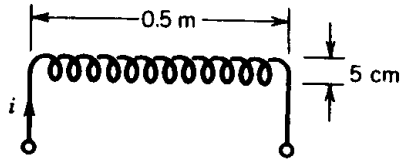

FIGURE P1.1
- 1.1 The long solenoid coil shown in Fig. P1.1 has 250 turns. As its length is much greater than its diameter, the field inside the coil may be considered uniform. Neglect the field outside.
- Determine the field intensity (H) and flux density (B) inside the solenoid ($i = 100$ A).